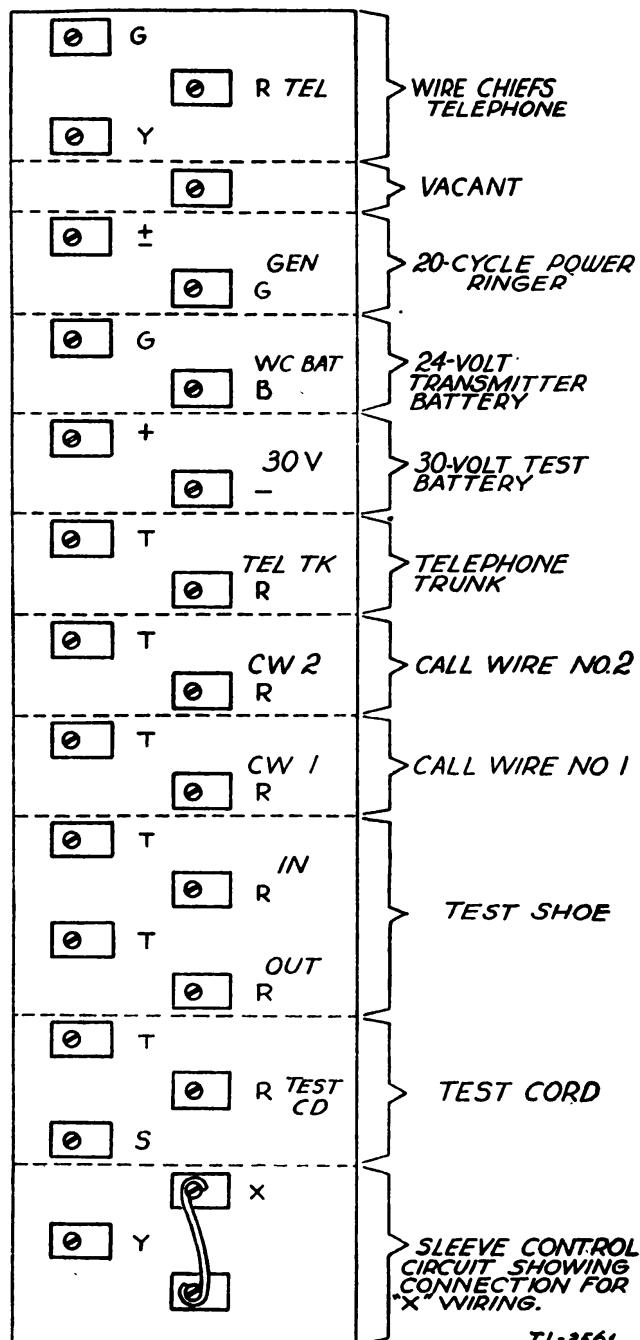

FIGURE 2.—Terminal strip, cabinet BE-70-( ).
**2. General.**—The cabinet BE-70-( ) may be mounted in any convenient location, either adjacent to the switchboard, or in the terminal room near the distributing frame. When the test cabinet is located near the switchboard, connection is made to the line to be tested by reaching across the face of the switchboard with a test cord. When the test cabinet is located near the main distributing frame, connection to the line to be tested may be made with a test shoe; the test cord terminals in the test cabinet (see fig. 2) may also be connected to the corresponding terminals of an outgoing line circuit, in order to provide means of testing lines from the switchboard even though the test cabinet may be located at some distance from the switchboard. Connection between the outgoing line circuit jack and the line jack of the circuit to be tested is made at the switchboard by means of a patching cord. The outgoing line circuit must be of the type that has no series or bridged line equipment.
**Note.**—Only those connections required in a particular installation need be made (see fig. 2).
(8) The T-R OUT terminals are for connection to the tip and ring conductors, respectively, of the inner contacts (line side) of the test shoe.
(9) T-R-S TEST CD terminals are for connection to the switchboard test cord circuit. A test cord may be connected to these terminals if the test cabinet is located near the switchboard; or if the test cabinet is located near the main distributing frame, an outgoing line circuit may be connected to these terminals (see par. 2).
(10) The X-Y terminals and an unmarked terminal are used for making the proper connection for the sleeve control circuit. Usually the sleeve circuit will be connected according to X wiring, as indicated in figure 2. The Y wiring is used only on common battery manual switchboards equipped with sleeve-controlled line relay circuits. In order to connect these terminals for Y wiring, it will be necessary to disconnect the strap between terminal X and the unmarked terminal and establish a connection between terminal Y and the unmarked terminal.
(11) The T-R BDG terminals (located on the front of the cabinet) may be used for connection to a Wheatstone bridge when such an instrument is available.